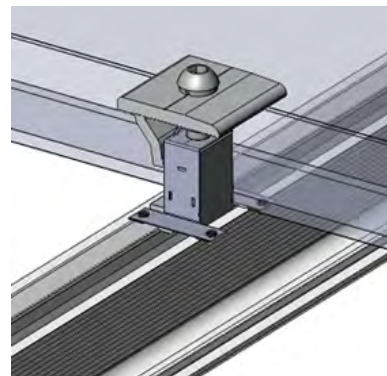

Figure 14
- Step 4: When using as an Inter Clamp, click the Universal Clamp into the rail channel and slightly lift the framed PV Module to ensure the Grounding Clip is properly positioned as shown in Figure 14;